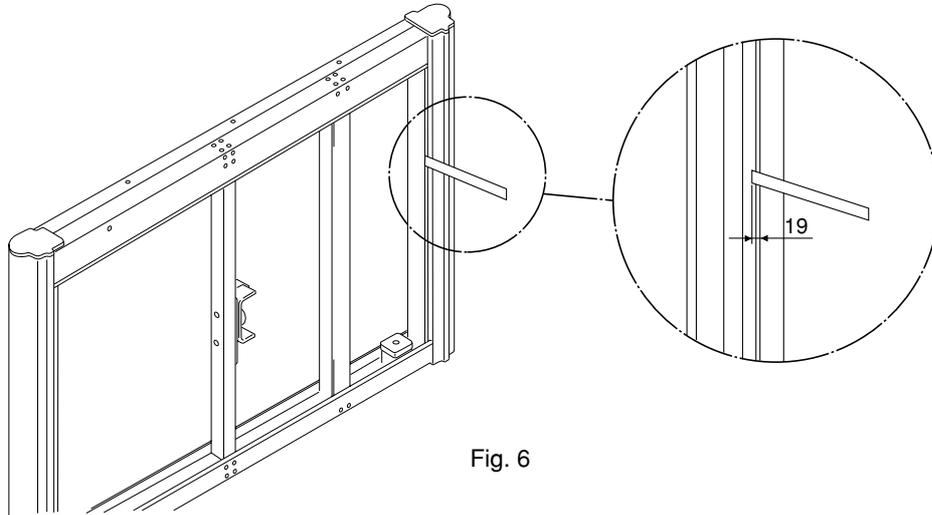

Fig. 6
8) Right and left swing adjustment of CCD Unit (See Figures 6 to 9.)
- As shown in Figures 6 and 7, insert a scale of 19 mm from the external and center positions of a CCFL unit.